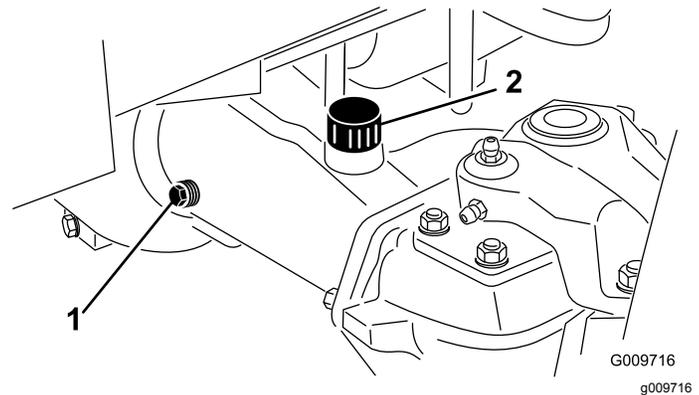

Figure 69
2. Remove a check plug from 1 end of the axle (Figure 69) and make sure that the lubricant is up to the bottom of the hole.
3. If the level is low, remove the fill plug (Figure 69) and add enough lubricant to bring the level up to the bottom of the check plug holes.